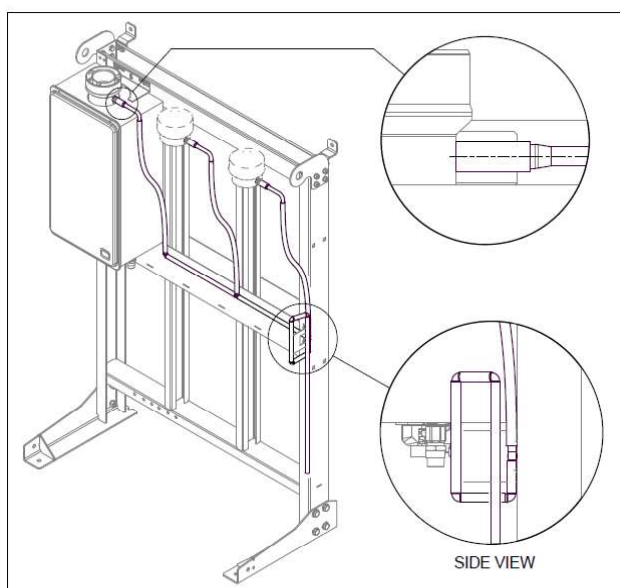

Figure 18- Condensate Trap and Condensate Drain Line
The Condensate Trap must be filled with water prior to the operation of the water heater. Refer to Figure 18- Condensate Trap and Condensate Drain Line on page 46.
2. Undo the strap holding the aluminium tube and fit the end of the short silicone tube to the spigot of the water heater flue outlet as shown in Figure 18- Condensate Trap and Condensate Drain Line.
7. Direct the end of the condensate trap tube to appropriate discharge point. The end of the condensate trap tube may be cut to suit. Two (2) loose plastic elbows (per trap) are provided with the system for convenience.